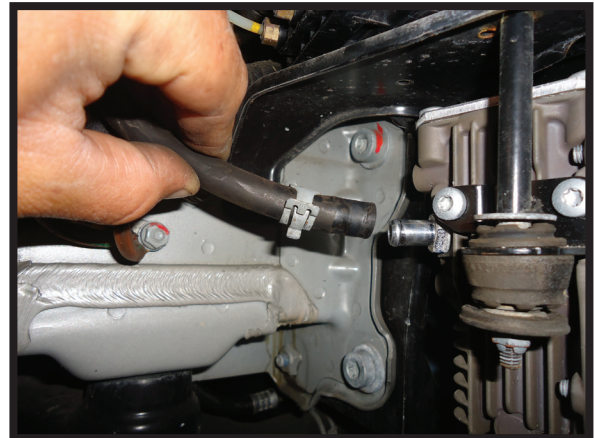

FIGURE 5
6. LOCATE THE LARGER RUBBER HOSE LEADING TO THE COMPRESSOR. PINCH AND SLIDE THE HOSE CLAMP OFF OF THE AIR FITTING AND REMOVE THE AIR HOSE. (FIGURE 5)